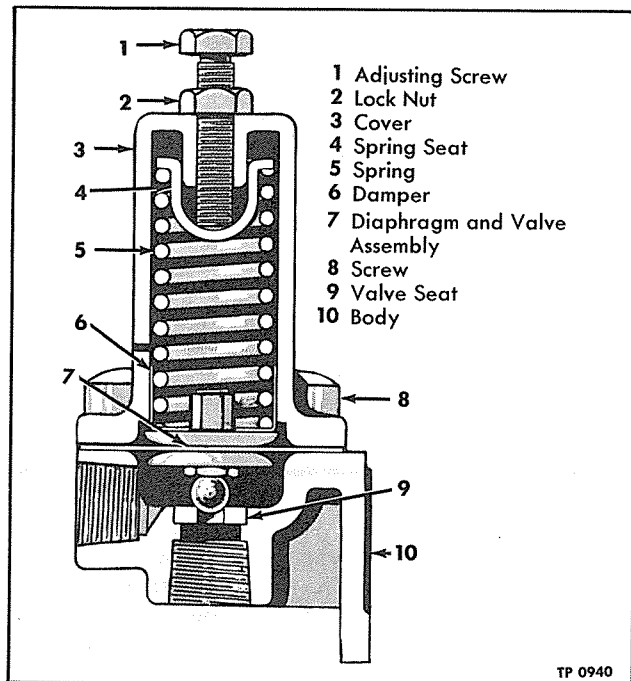

Figure 5—Pressure Regulating Valve
Pressure regulating valve (fig. 5) is connected in air lines as shown in figure 1. The unit consists essentially of a valve, diaphragm, and spring, enclosed by a valve body and cover. Adjustment is made by means of the adjusting screw in the cover.
OPERATION (Key Numbers Refer to Fig. 5)
The pressure regulating valve shown in figure 5 is the closed position; this indicates that pressure in the main air system, which connects to side opening in the valve, is below 65 pounds and the spring (5) above the diaphragm (7) is holding the valve against its seat (9). When pressure in main air system reaches 65 pounds, the pressure in the cavity below the diaphragm overcomes the spring tension above the diaphragm and lifts the diaphragm up. This raises the valve off its seat and permits air pressure to pass out through the opening in the bottom of the valve and into the air lines leading to the No. 4 air tank and to the units which are supplied by the auxiliary air system. When the pressure in the air brake system falls below 65 pounds, the spring closes the valve and prevents air pressure from entering the auxiliary air system until the pressure in the air brake system is again built up.
ADJUSTING SET PRESSURE (Fig. 5)
DISASSEMBLY (Fig. 5)
INSPECTION (Fig. 5)
ASSEMBLY (Fig. 5)